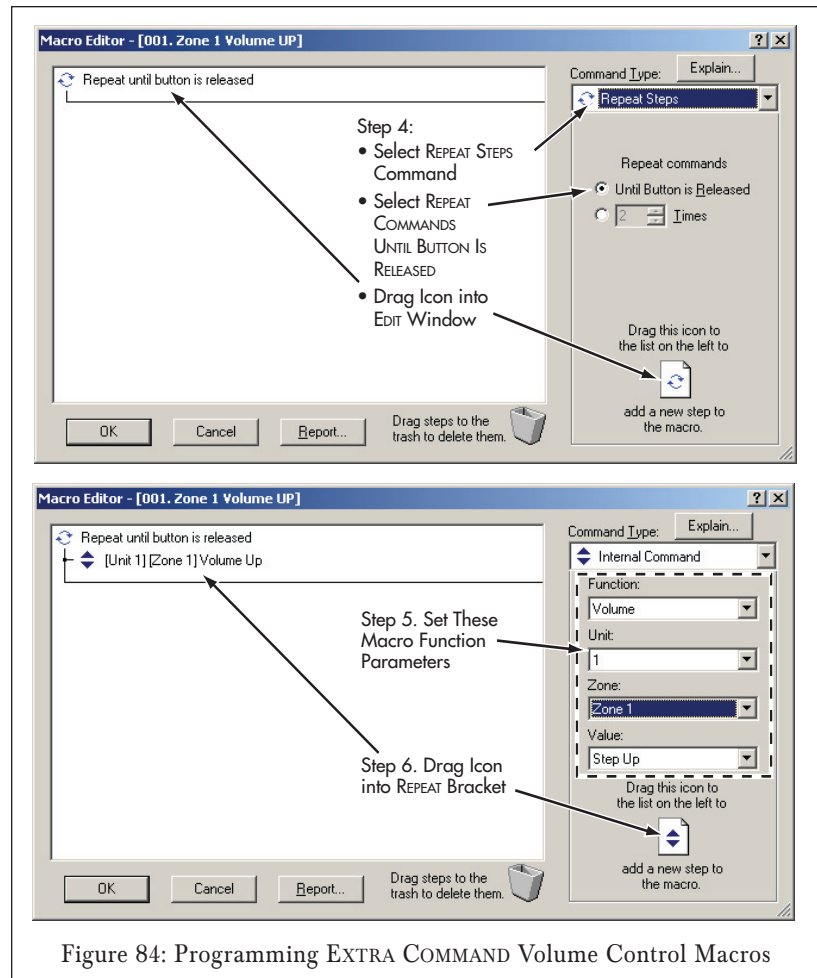

Figure 84: Programming EXTRA COMMAND Volume Control Macros
3. Click on the macro. The MACRO EDITOR window will open (see *Figure 84*).
6. Drag the macro icon into the EDIT window, inside of the REPEAT STEPS bracket (see *Figure 84*). Click OK.